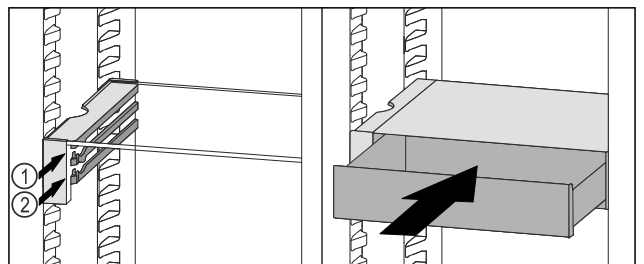

Fig. 149
- Place the VarioSafe drawer behind the stoppers on desired rib Fig. 149 (1) or Fig. 149 (2).